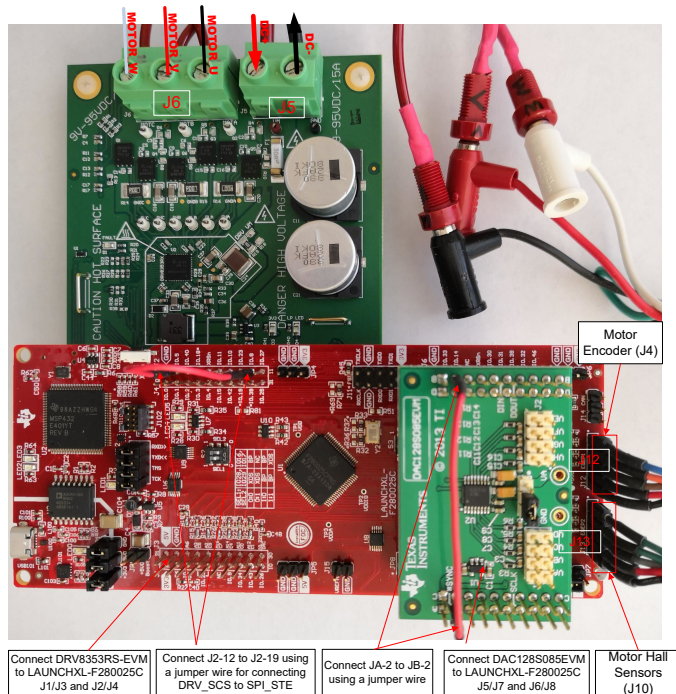

Figure 2-8. LAUNCHXL-F280025C Connects DRV8353RS-EVM and DAC128S085EVM
- Make sure that the following items are set as described below, and then connect **DRV8353RS-EVM** to J1/J3 and J4/J2 site of **LAUNCHXL-F280025C** as shown in **Figure 2-8**.
- Connect the motor, encoder, and hall sensors to the kits as described in **Table 2-2** and shown in **Figure 2-8**.